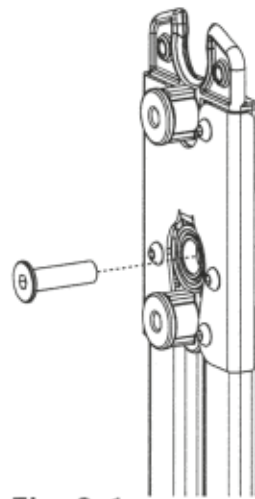
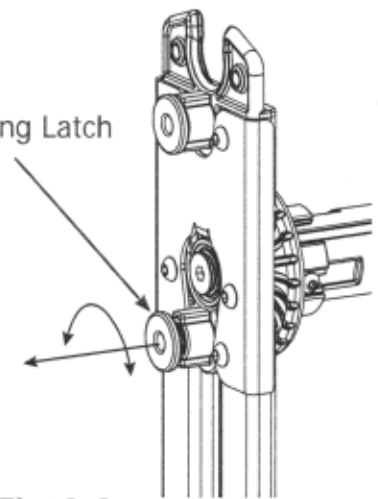

Fig. 3-1
Fig. 3-2
3-1: Insert rail ends into plastic wheel bearing for both ends of the frame (Fig. 3-1).
3-2: Fasten the (2) M10 x 35mm Connector bolts into the rail ends with a 6mm Allen Wrench (Fig. 3-1).
Note: The rail assembly in Fig. 3-1 and 3-2 has been converted from a take up rail to a idler rail. To have a free rolling idler rail, simply pull the rotating latch out and rotate quarter turn to disengage (Fig. 3-2).